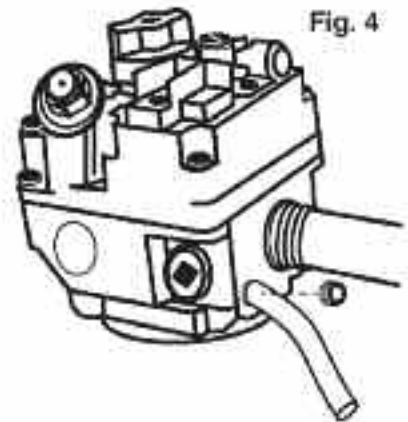

Fig. 4
1. Verify inlet gas pressure (1) does not exceed maximum inlet gas pressure shown on rating label; and (2) exceeds minimum inlet gas pressure shown on rating label.
2. Connect manometer or pressure gauge to gas valve outlet pressure tap; see Fig. 4. Place shut-off valve between gas valve and manometer (gas pressure can be introduced gradually to avoid pressure surge when gas valve opens that could blow liquid out of manometer. See Fig. 4)